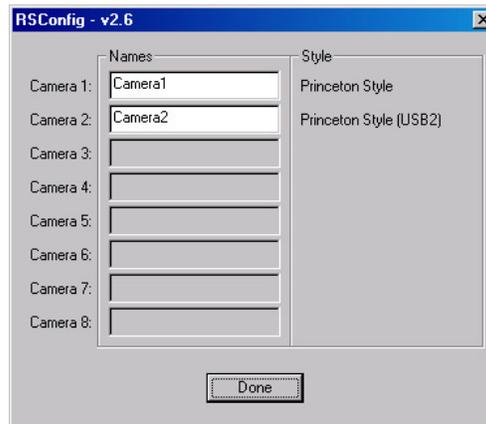

Figure 36. RSConfig dialog: Two Camera Styles
4. Run RSConfig.exe (accessible from the **Windows|Start|Programs|PI Acton** menu). If the USB 2.0 camera/detector is listed as Camera 2 (Princeton Style (USB2) in Figure 36), you will have to edit the PVCAM.INI file.